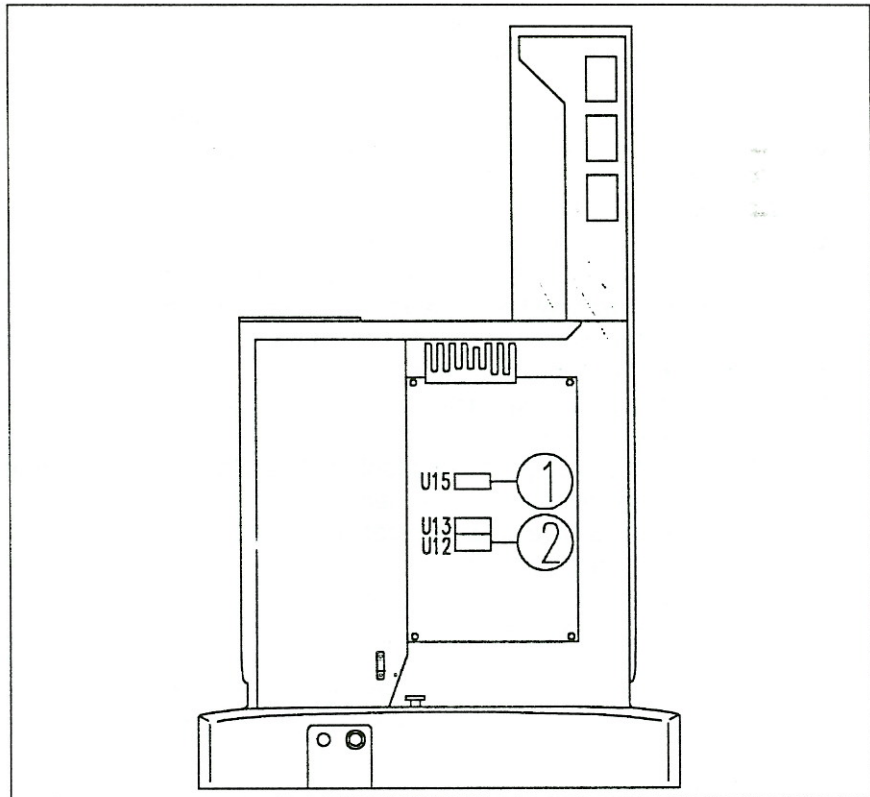

Figure 5. Unit, seen from PCB side.
- 3) Remove the old EPROM from socket U15 on MAIN CONTROL (Fig. 5 (1)) and wrap it in the packaging of the new EPROM.
- 3) Remove the old NVRAM from the socket U12 on MAIN CONTROL (Fig. 5. (2)) and wrap it in the packaging of the new NVRAM.